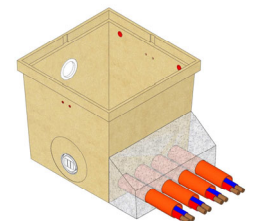

Figure 4
5. For multiple pipe entries, ACO recommends a concrete haunch around the all the pipes to preserve pit rigidity. Minimum of 100mm concrete encasing is recommended around the pipes and 200mm measured out from the pit wall (Figure 4). Concrete to be fully compacted and of grade 25MPa\*.